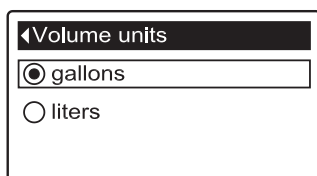

FIG. 46
5. Press the SELECT (O) button to display the Volume units menu (See Figure 46).
6. If the desired volume unit already has a black dot next to it (See Figure 46), go to Step 7. Otherwise, press the DOWN (▼) or UP (▲) buttons to scroll to the other volume unit, then press SELECT (O) to choose it.
7. Press the SELECT (O) button. The display will go back to the User preferences menu.